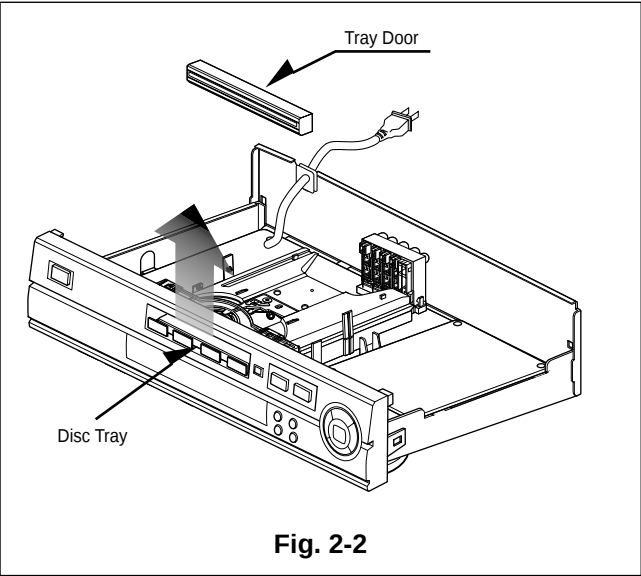

Fig. 2-2
- 1. Eject the disc tray. (See Fig. 2-2)
- 2. Remove the tray door. (See Fig. 2-2)
- 3. Release 2 screws (B).